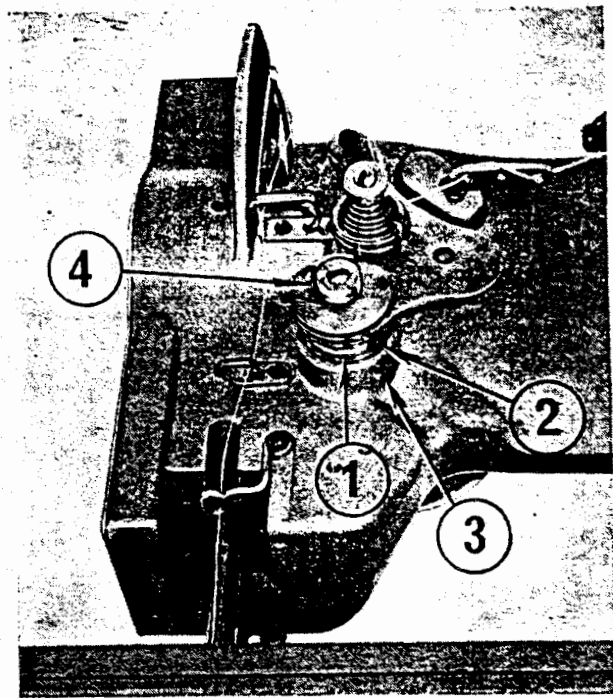

Fig. 16
## III. HOW TO ADJUST THE MACHINE (Fig. 16)
To move the thread take-up spring adjusting plate (Fig. 16 ①) in order to regulate the movement of the thread take-up spring, loosen the screw ②, Fig. 16. To increase the movement of the thread take-up spring, move this adjusting plate toward right. To make the movement of the spring less, move this adjusting plate toward left. After adjusting, be sure to tighten the screw.
To strengthen the tension of the thread take-up spring, loosen the thread controller stud set screw ③, Fig. 16 in the arm under the thread controller disc, insert a screw driver to the tip of the groove of the thread tension post (Fig. 16 ④) and turn slowly to left. To weaken the tension, turn the screw driver to right. After the adjustment, re-tighten the screw.